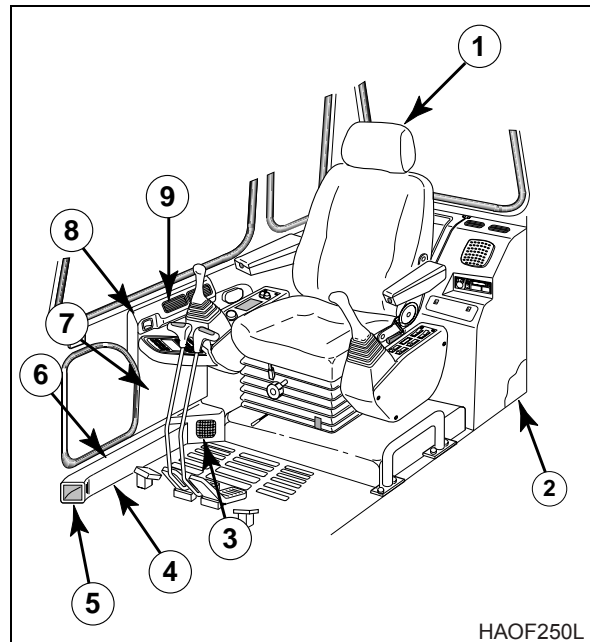

Figure 2
9. Remove operator's seat (1, Figure 2).
10. Remove duct covers (5, 6, 7 and 9, Figure 2). When removing duct cover (7), disconnect hour meter connector.
11. Remove air duct (3, 4 and 8, Figure 2) located at right side of cab. Disconnect duct wiring connector before removing air duct (3).
16. Disconnect cabin ground cable (2, Figure 2).
7. Connect cabin ground cable (2, Figure 2).
14. Install air duct (3, 4 and 8, Figure 2) located at right side of cab.
15. Connect hour meter connector and install duct covers (5, 6, 7 and 9, Figure 2).
16. Install operator's seat (1, Figure 2).